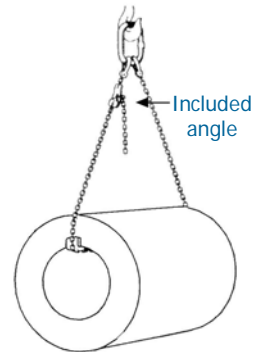

Fig. 19
5. Single Adjustable Basket Sling (see Fig. 19)
- A suitable master link must be fitted for two-leg rating. (see Fig. 19)